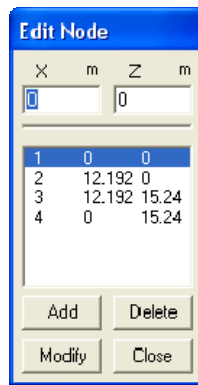

Figure 7-2 Edit Node dialog box
- From the Edit menu, choose Edit Node. The modeless dialog box of Figure 7-2 appears